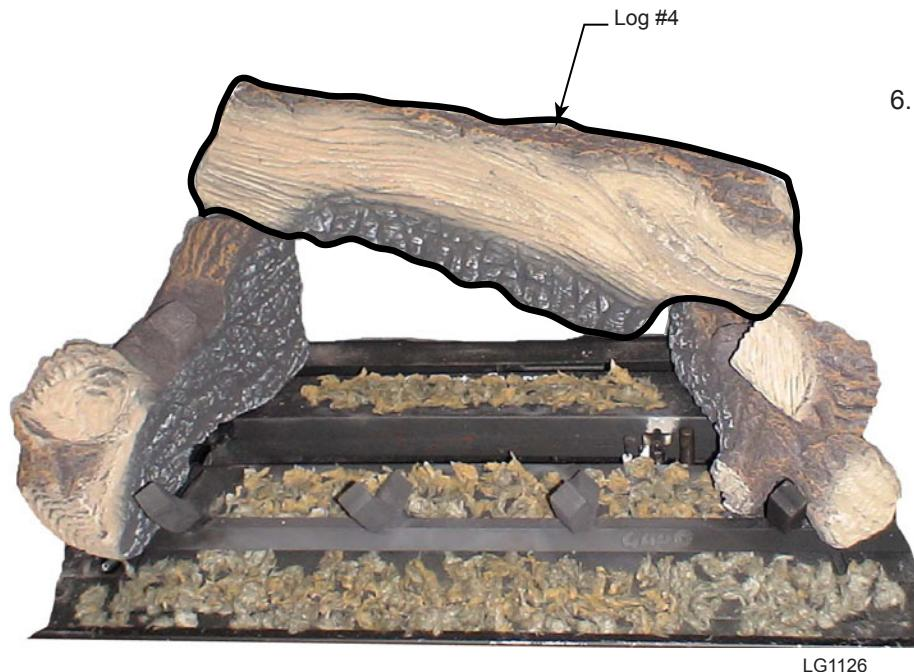

Figure 35
6. Install log #4 by placing the rectangular notch on the bottom of the left side of the log onto the rear most rectangular protrusion on log #1. Place the rectangular notch on the bottom right side of log #4 onto the rear most rectangular protrusion on log #2. *Figure 35*